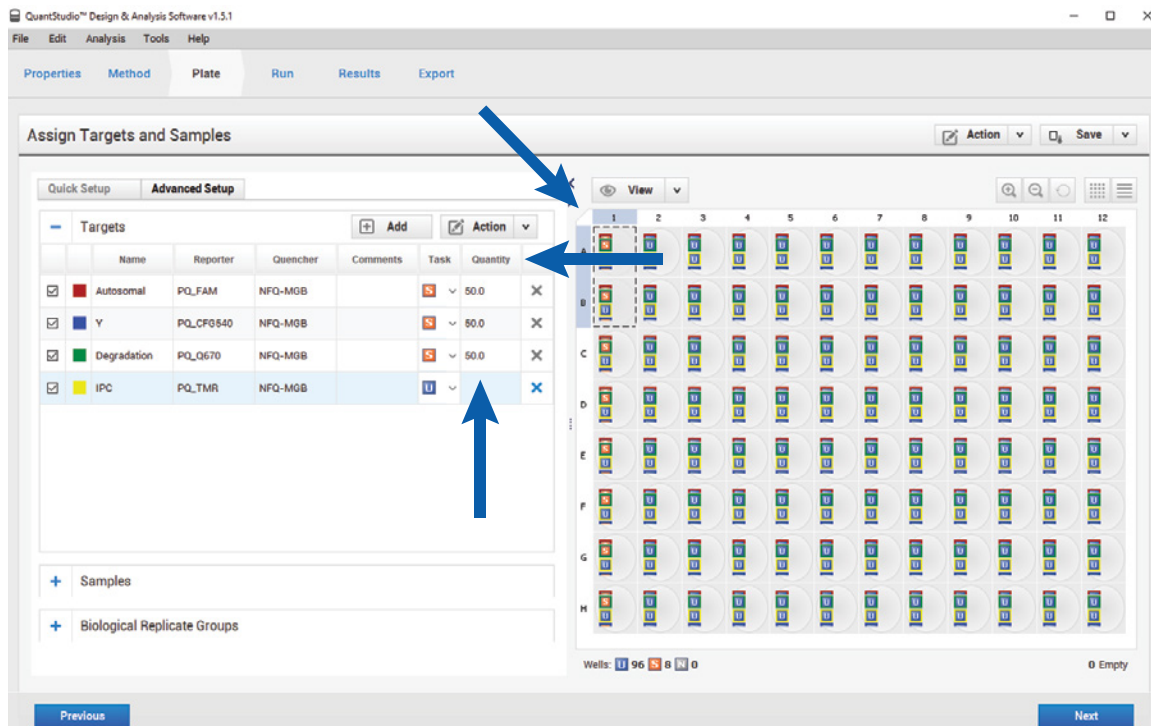

Figure 40. Assigning DNA concentrations to wells with DNA standards.
8. Enter the concentration of each DNA standard in the Quantity field without a unit of measure (Figure 40).